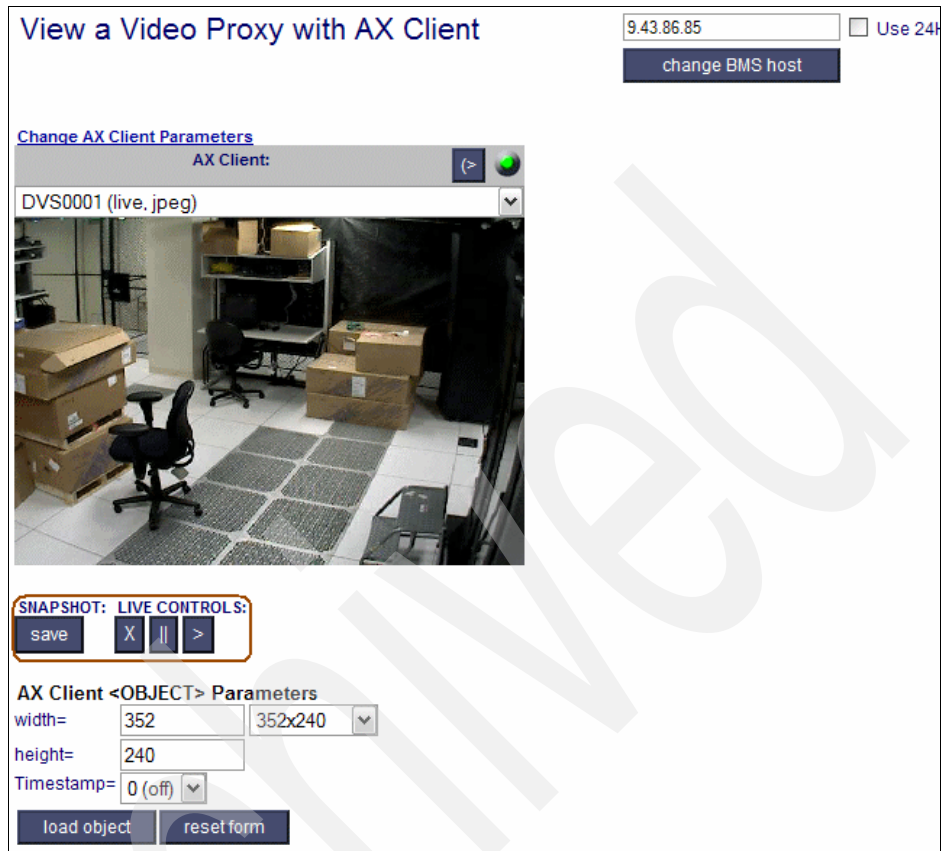
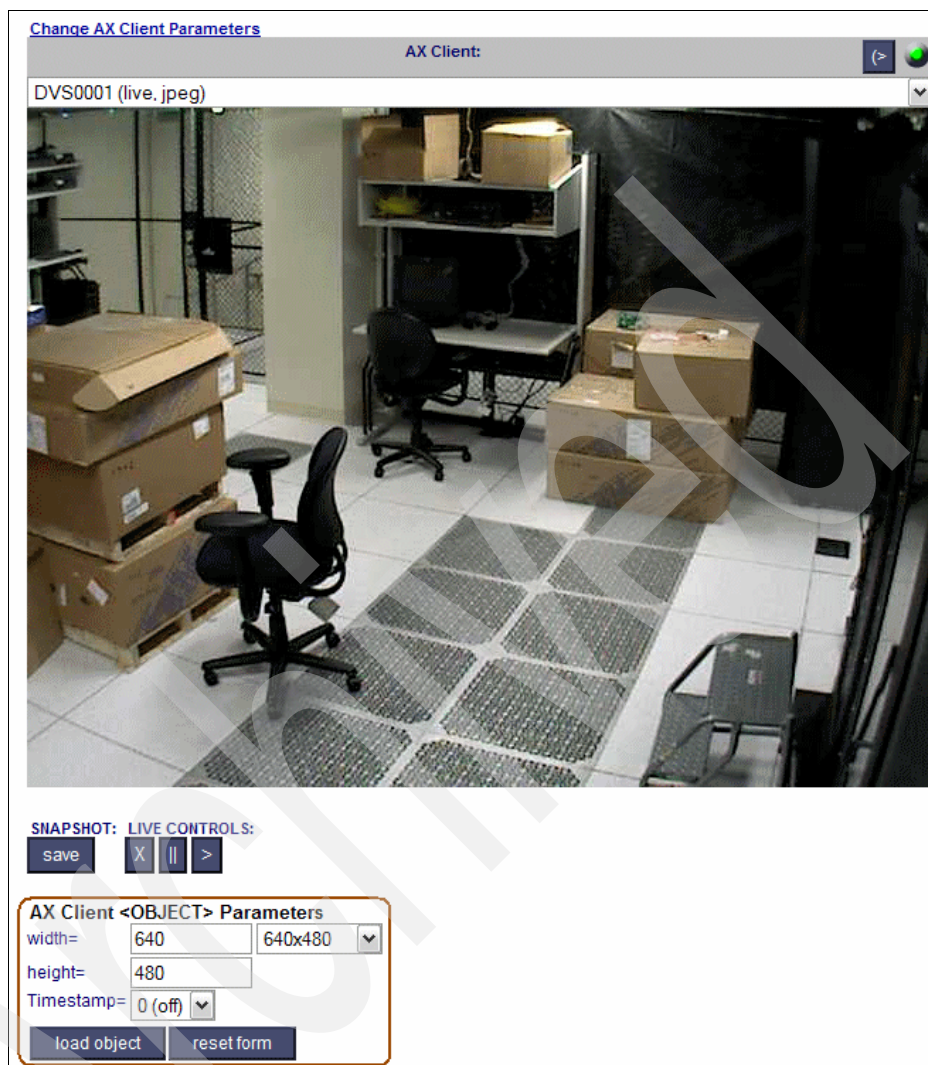

Figure 8-14 View a Video Proxy
Figure 8-15 View a Video proxy options
After you select the proxy that you want to view, the proxy will start to play, as shown in Figure 8-14 on page 261. You have the live controls and the option to stop, play, and to take a picture of the proxy using a snapshot.
2. You can also use the AX Client <OBJECT> Parameters in Figure 8-14 to resize the proxy view windows size, as shown in Figure 8-15 on page 262. To resize the proxy view windows, populate the fields under the AX Client<OBJECT> field, and click the **load object** button.